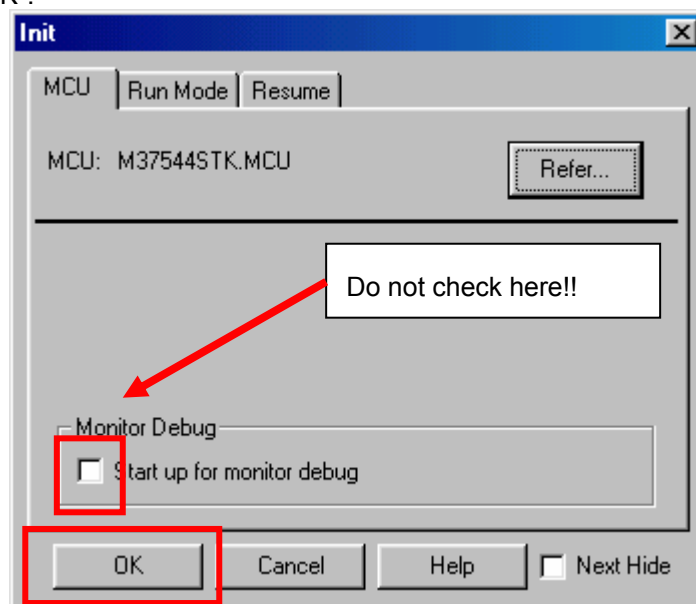

Figure 4-11 INIT Screen 2 of KD38
3) When selecting the target MCU, the INIT screen of KD38 in Figure 4-11.